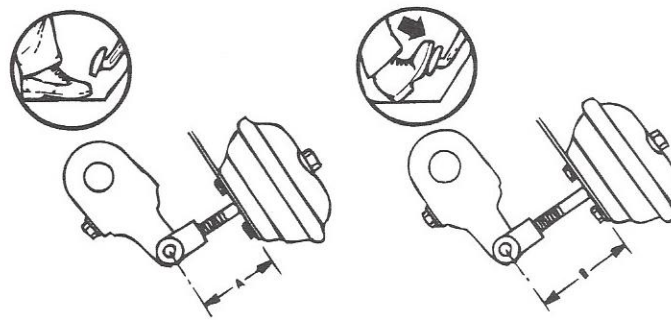

Figure 4.2. Brake Adjustment
2. Measure the distance from the center of the bolt (connecting the slack adjuster to the clevis) to the bottom of the brake chamber mounting plate. This is the A dimension (Figure 4.2) taken with no brake pedal pressure.
3. Have another person apply the brakes to simulate a panic stop. While the brakes are thus fully applied, make the measurement as in step 2 again. This is the B dimension (Figure 4.2)